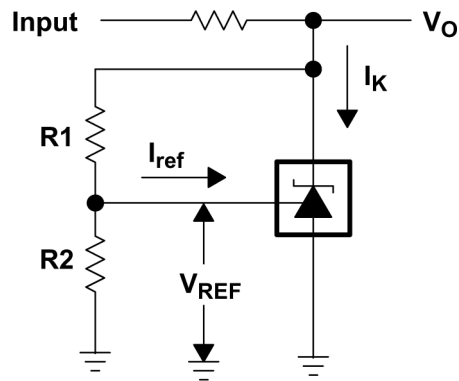

Figure 6-2. Test Circuit for  $v_{KA} > V_{REF}$ ,  $V_O = V_{KA} = V_{REF} \times (1 + R1/R2) + I_{ref} \times R1$
(3) The dynamic impedance is defined as  $|z_{ka}| = \frac{\Delta V_{KA}}{\Delta I_K}$ . When the device is operating with two external resistors (see Figure 6-2), the
- (3) Full temperature ranges are -40°C to 125°C for TLV431Q, -40°C to 85°C for TLV431I, and 0°C to 70°C for TLV431C.
- (4) dynamic impedance is defined as  $|z_{ka}| = \frac{\Delta V_{KA}}{\Delta I_K}$ . When the device is operating with two external resistors (see Figure 6-2), the total